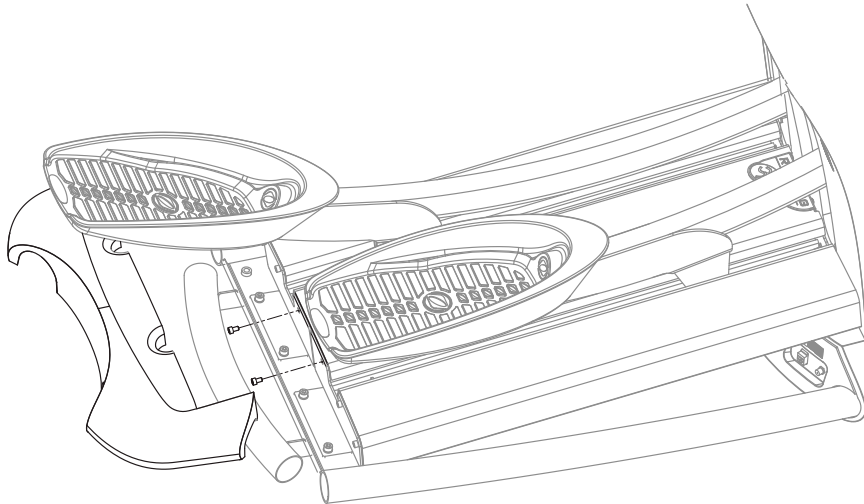

Figure 1.5
1. Grasp and remove the plastic cover at the base of the tracks, then use a Phillips screwdriver to remove the two (2) 4mm hex bolts from the bottom of the track (Figure 1.5).